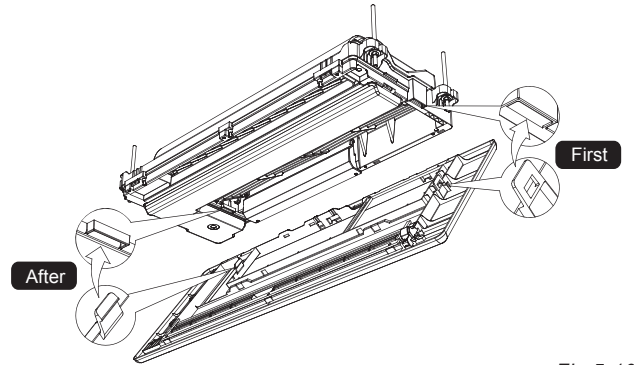

Fig. 5-10
- Two buckles on the panel component are used for assisting the panel installation, the installing method of the buckle as Fig.5.10 display.